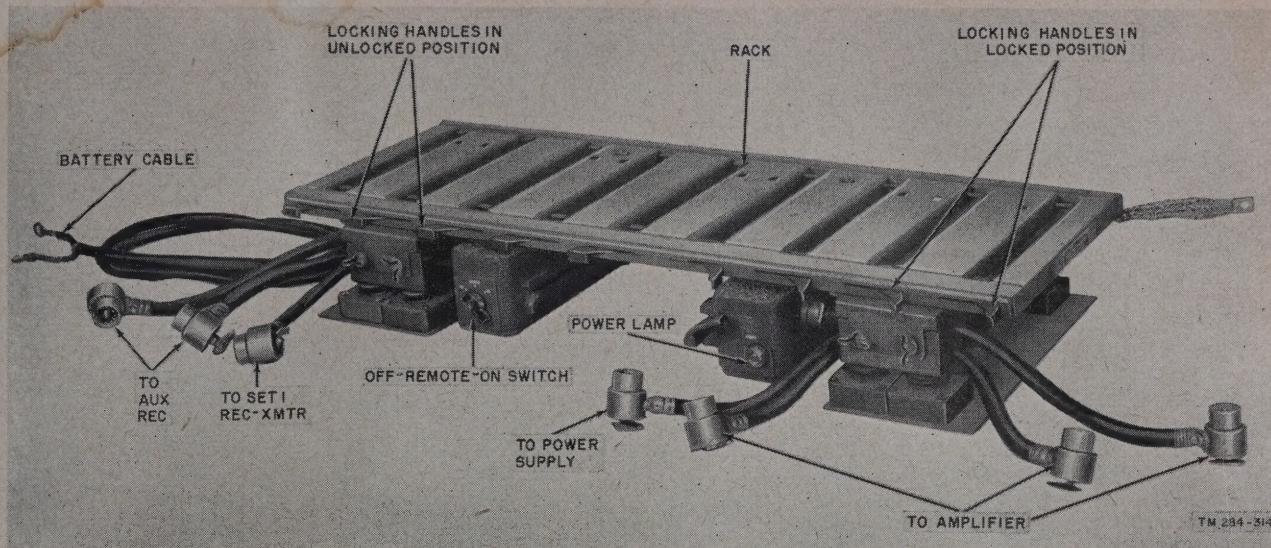

Figure 9. Mounting MT-297/GR, top view.
a. Mounting MT-297/GR (fig. 9) serves as a support for the major units of the radio set and as a junction box for interconnecting the various units.
b. At either end of the mounting are two shock-mounted supports which normally are bolted to a vehicular mounting surface. A hinged mounting table is secured to these supports and a junction box is suspended from the under surface of the table near the center of the unit (fig. 9).